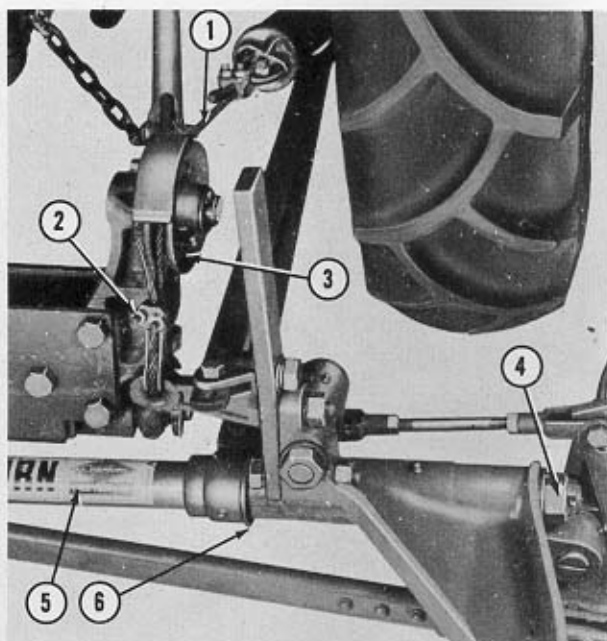

Figure 15
- b. Place the cable (1), Figure 15, over the cable sheave (3) and secure the sheave to the bracket shaft with flat washer and cotter pin as shown.
- c. Release the cable clamp (2), Figure 15, pull on the loose end of the cable until all slack is removed and tighten the cable clamp (2), securely as close to the thimble as possible.